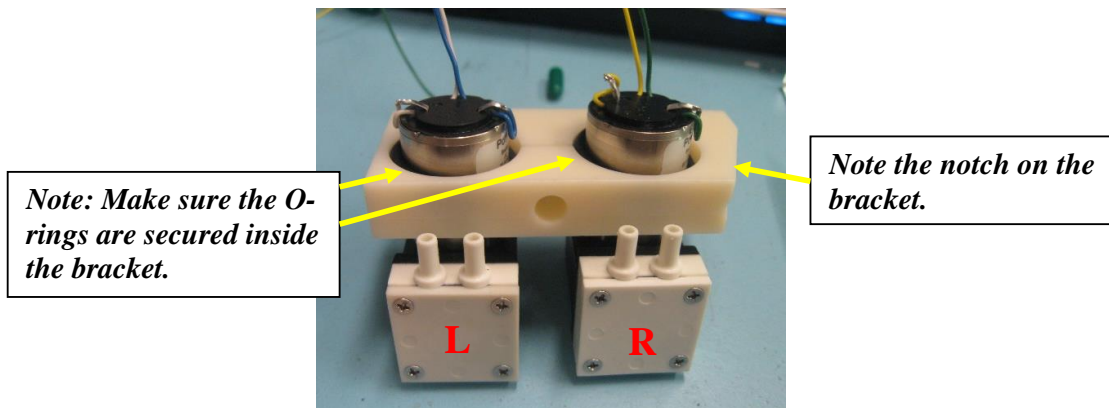

Figure 4
1.7. Install the Air Compressors into the Dual Pump Bracket as shown in Figure 4.